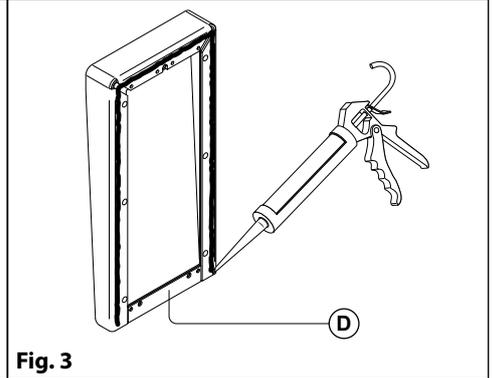
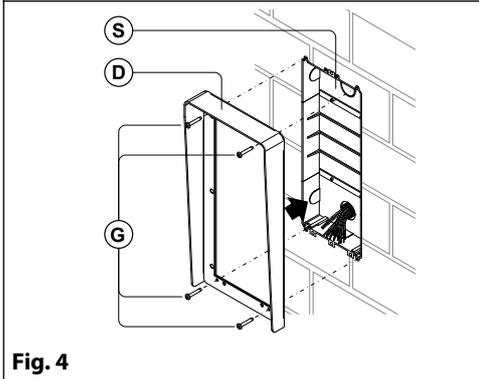

Fig. 3
Fig. 4
4. A rainshield **D (Fig. 3 & 4)** can be mounted using the fixing screws **G (Fig. 4)** to conceal possible wall finishing defects and protect against rain;
⚠ In order to prevent water ingress we highly recommend using a silicon sealant between the wall and the back box and between the wall and the rainshield D (Fig.3);